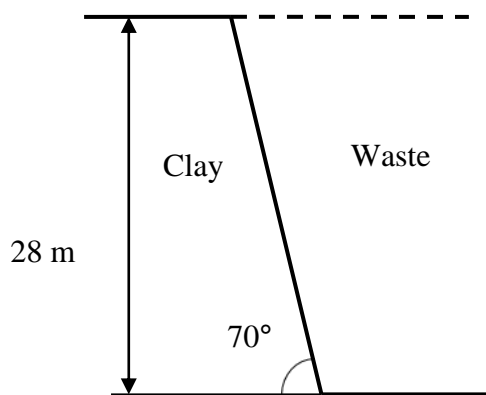

Fig. 1
- (d) A landfill side slope at  $70^\circ$  to the horizontal, shown in Fig. 1, is to be lined with a 6 mm thick geomembrane that is specified to have a mass of 20 kg per square metre. The underside of the geomembrane has a friction angle of  $14^\circ$  with respect to the clay, while the top side has a friction angle of  $8^\circ$  with respect to the waste. The unit weight of the waste is  $9.6 \text{ kN m}^{-3}$ . The yield stress of the geomembrane is 13.8 MPa.